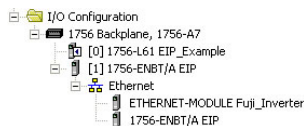

Figure 81: I/O Configuration Tree
- 6) After adding the I/O Module to the configuration, the full I/O Configuration tree should appear similar to Figure 81.